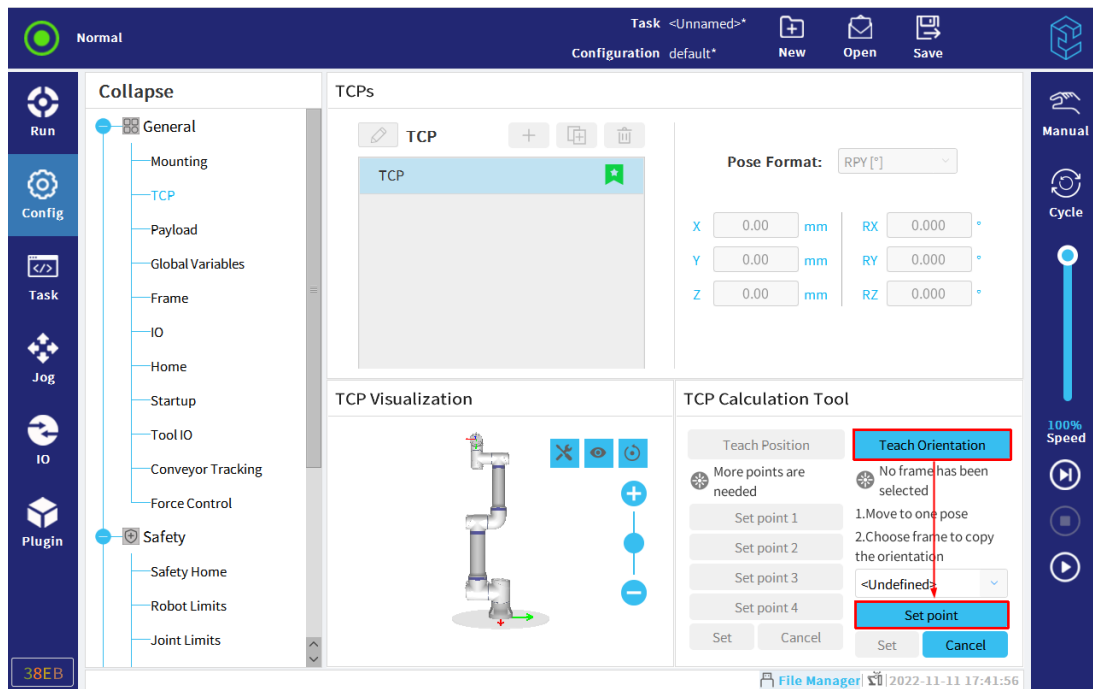

Figure 3-39 : Teach Pose
1. Click "Teach Pose", as shown in **Figure 3-39**.